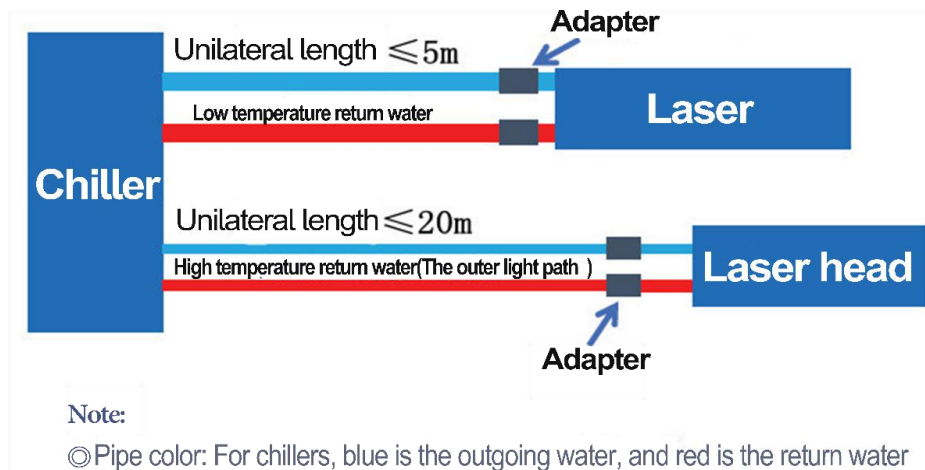

Figure 6-4 Connection diagram between chiller and laser
- When connecting the chiller to the laser, follow the method in Figure 6-4, and the inner diameter of the pipe must not be smaller than the diameter of the inlet and outlet of the chiller. If the inner diameter of the piping is smaller than the requirements, the consent of the chiller manufacturer must be obtained.